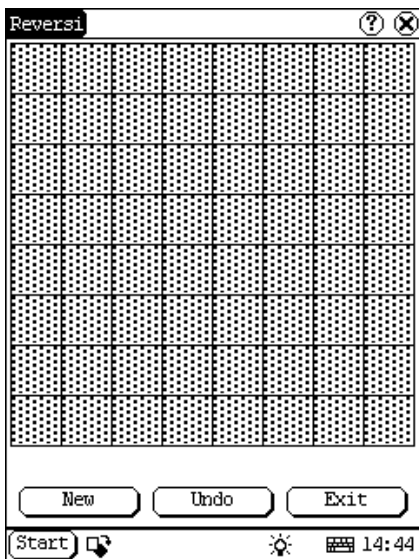

Figure 5-13
- 1) In the pop-up menu of 'Game', select 'Reversi' to open the Chess Board. (See Figure 5-13)